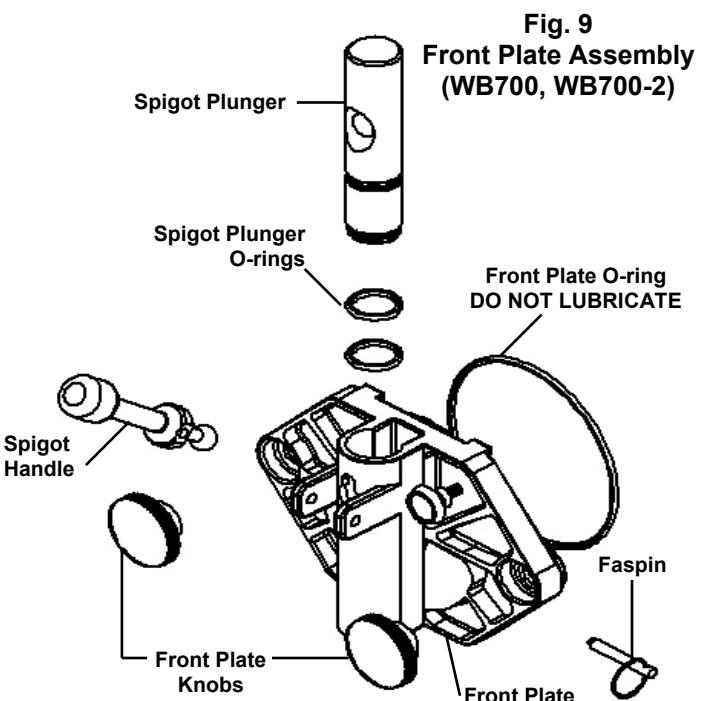

Fig. 25
- Slide the lubricated spigot plunger into the front plate (Fig. 25) making certain that the spigot handle slot is aligned to the front.